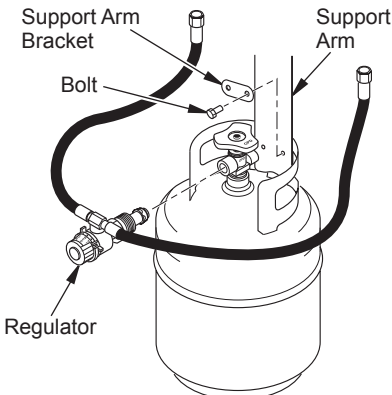

Figure 5 - Attaching Support Arm and Regulator to Propane/LP Tank
5. **30,000 Btu Models Only** Attach the heater to the support arm on the inside of the guard and bolts through two holes in the guard (see Figure 5). Tighten the support arm bracket into place using the wing nuts provided.